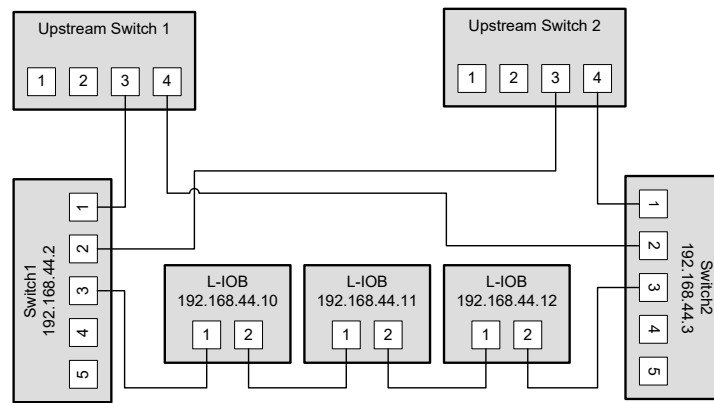

Figure 60: Ring Ethernet topology
**Ring topology:** In this setup, the devices are connected in a chain and each end of the chain is connected to a different upstream switch. This topology requires RSTP. If a single device is powered off, the RSTP will automatically recalculate the spanning tree so that all other devices in the chain are reachable. Only if two devices are power-off at the same time, the devices between them will not have an Ethernet connection. In Figure 60, the L-IOB devices with IP addresses from 192.168.44.10 to 192.168.44.12 are connected in this way. The recommended maximum number of daisy-chained devices is 20.